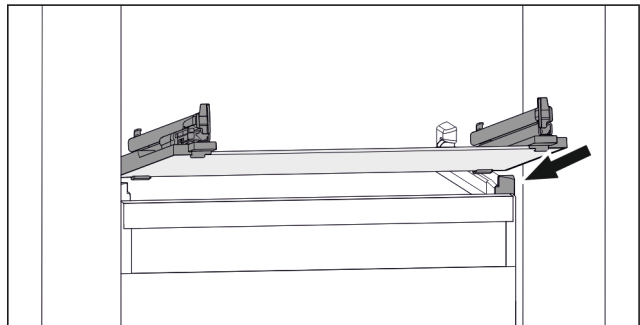

Fig. 159 Example illustration of glass shelf
- ▶ Position glass shelf at an angle behind the stoppers. (see Fig. 159)